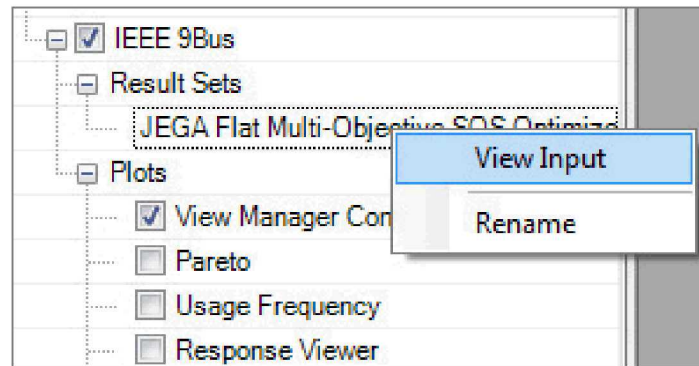

Figure 44. Opening the input set that created this result set.
8. Under the “Result Sets” header, right click on the solution set previously generated by the solver. (Figure 44).